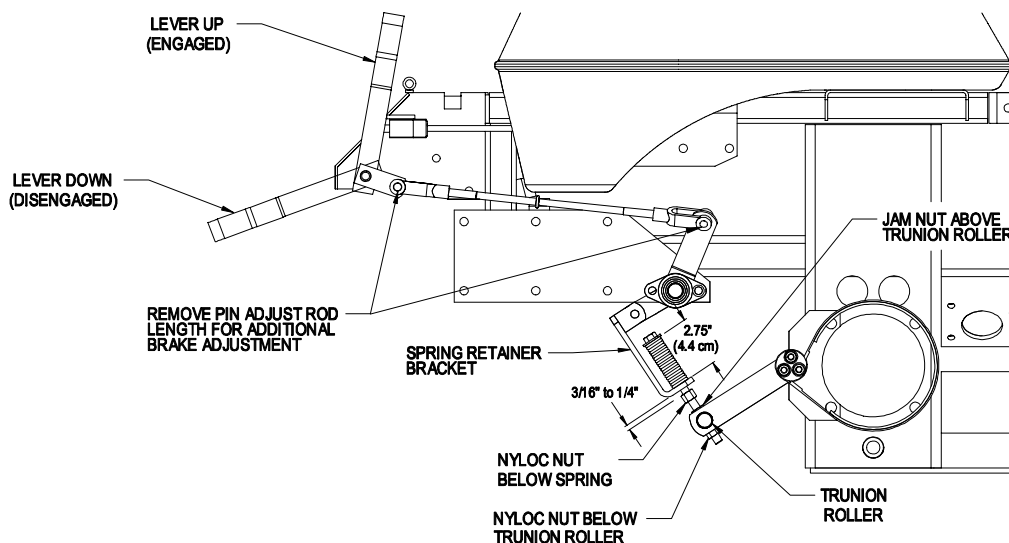

**FIGURE 15
- c) Locate belt guide bolted to deck near the shield support stud and right-hand pulley. Guide should be $1/8''$ (3 mm) away from the belt, with bolt-end of guide near end of slot (See Figure 15).